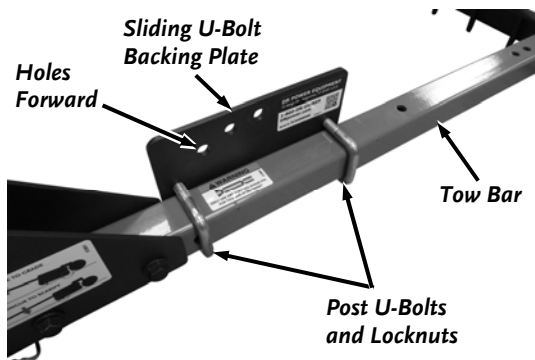

Figure 15
17. Secure the Sliding U-Bolt Backing Plate to the right side of the Tow Bar (three holes facing forward) with two Post U-Bolts and four 3/8" Locknuts using a 9/16" Wrench. Do not over tighten (**Figure 15**).